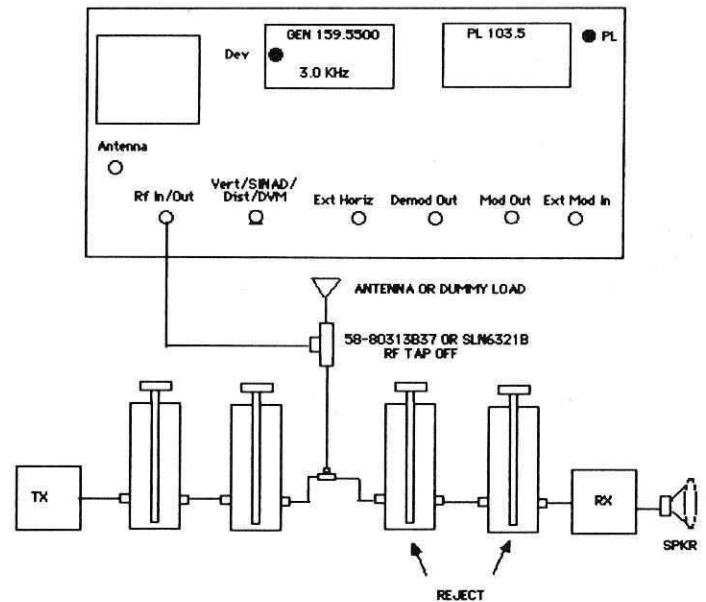

FIGURE 5.14—DESENSITIZATION TEST SETUP
1. Connect the service monitor to the repeater/duplexer under test, as shown in figure 5.14. Connect the "RF In/Out" to the duplexer's antenna port through an RF tap-off isolating device.